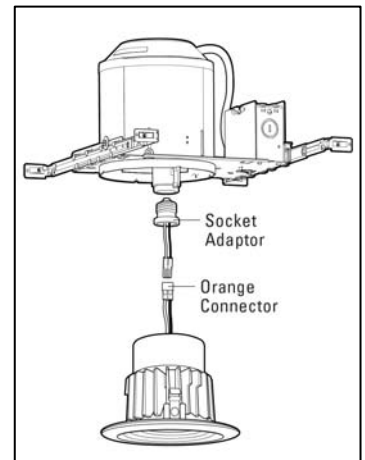

Figure 1
1. Remove the existing lamp and reflector, leaving the socket hanging freely by the wires. (Figure 1)